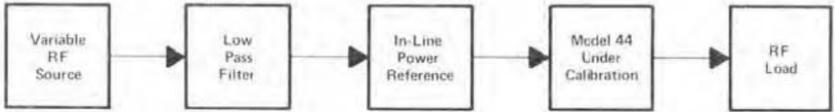

Figure 6-2 – Calibration Equipment Set-up
6.06 Refer to Figure 6-2, the Calibration Equipment Requirements. Perform the calibration as follows: